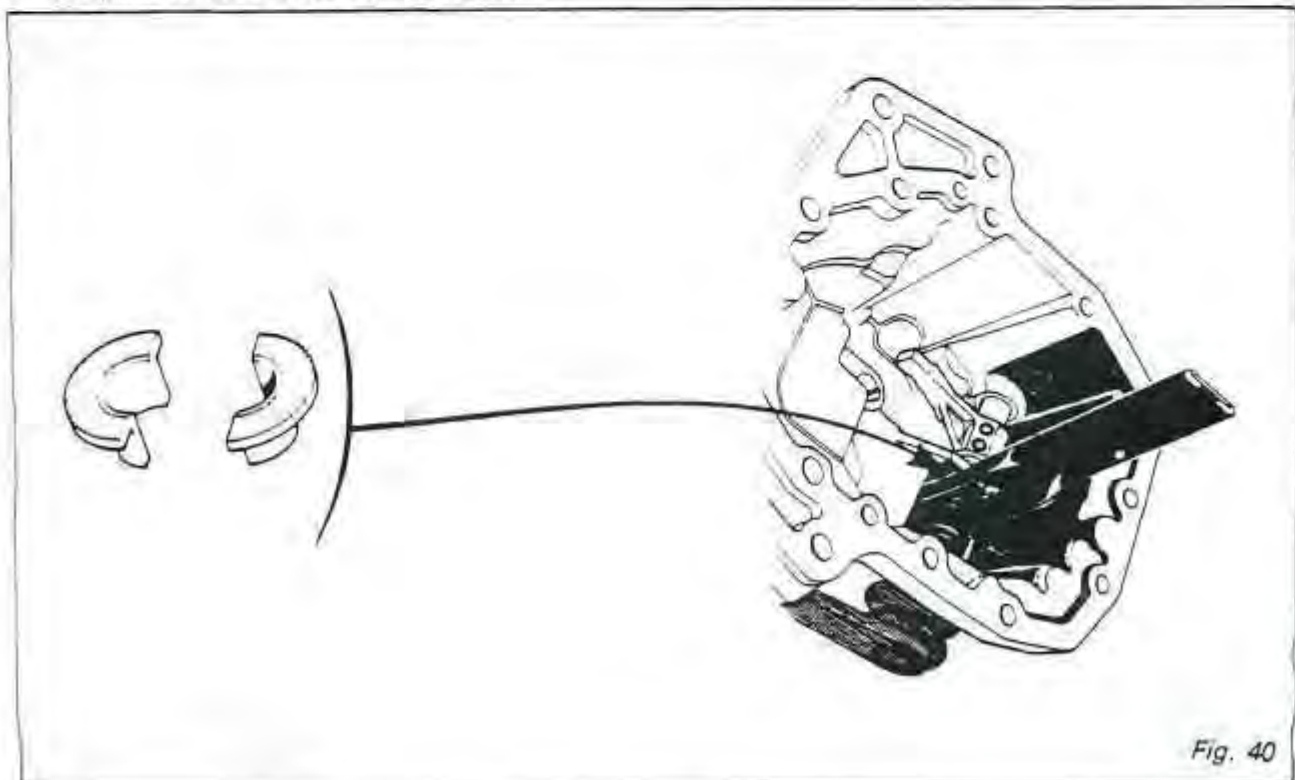

Fig. 40
1. Compress the selector shaft spring with Tool J28869 and remove the two (2) half-bushes from each end of the spring. (Fig. 40)